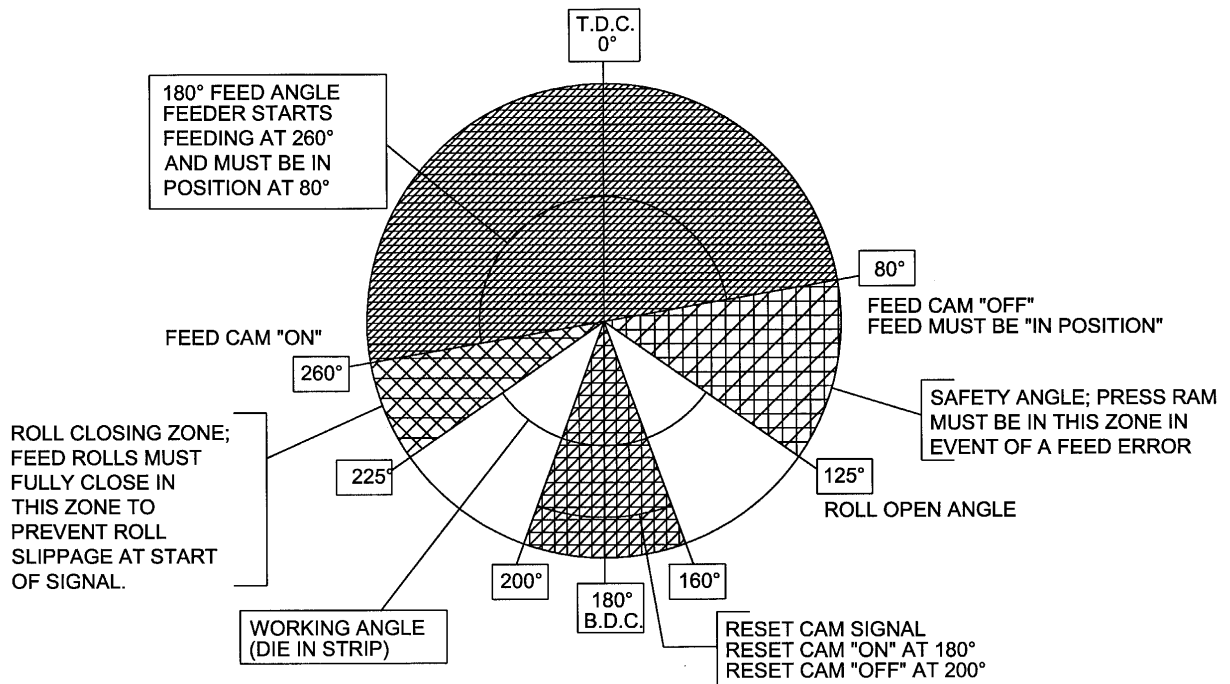

FIGURE 5
9. Open the **Pilot Release** screen of your previously created **Tool** program. Jog the press down slowly observing when the longest pilot would engage the pilot hole in the material if the material were there. (Refer to Figure 4.) Note the press positional readout (on the right top corner of **Pilot Release** screen) and put this setting for the ‘**Pilot Release On**’ setting. The ‘**Pilot Release Off**’ setting, in most cases, should be 180°. (See Figure 5.) Some drawing applications require the rolls to remain open past 180°.
10. Open the **Feed Cam** screen. Continue to jog the press slowly until the longest pilot just comes out of the material. Note the press positional readout and put this setting for the '**Feed Cam On**' setting. Set the '**Feed Cam Off**' point so that there is enough time to complete the feed length and enough time to stop the press, if there is a feed fault. (See Figure 5.)
11. Open the **Reset Cam** screen and set the '**Reset Cam On**' for 180 degrees and '**Reset Cam Off**' for 200 degrees. This setting should never need changing. (See Figure 5.)